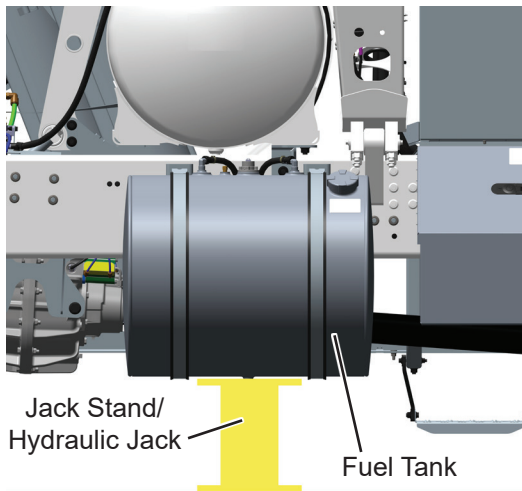

Figure 1 - Fuel Tank
4. Position and raise hydraulic jack/jack stand under fuel tank to support fuel tank when replacing tank strap hardware. See Figure 1.